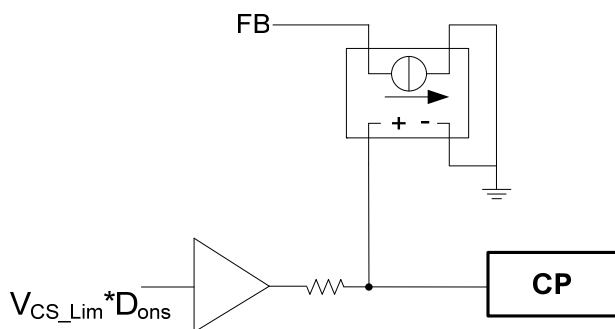

Figure 10: Output Cable Compensation
The MP023 has an internal output cable compensation (CP) circuit (see Figure 10). A switching signal ($V_{CS_Lim} \cdot D_{ons}$) is generated internally and is synchronized with the switching frequency. The duty on-time of this signal is D_{ons} , and the amplitude of this signal is proportional to the current-limit threshold. This signal is output to CP through a 1MΩ resistor. A low pass filter can be implemented by placing an external capacitor on CP, and then a DC voltage (V_{CP}) proportional to the output current can be deducted on CP. Note that if cable compensation function is needed, D_{S_Max} is default as 0.4 and can't be programmable by connecting external CP resistor.